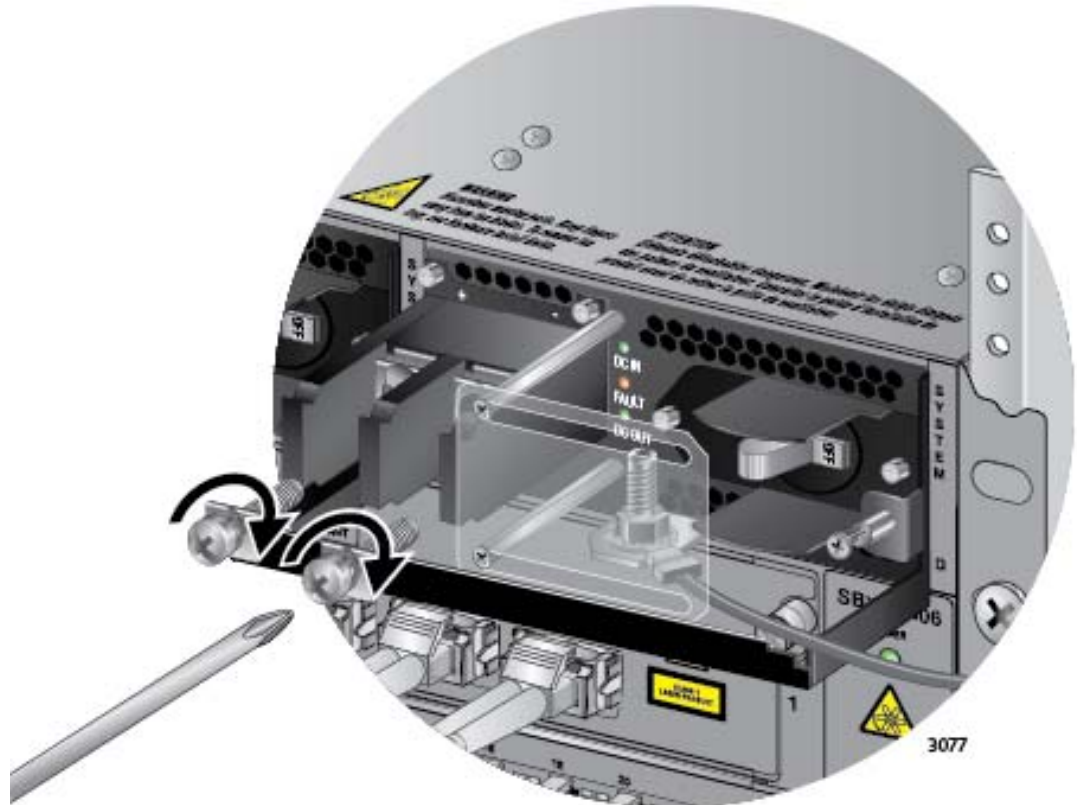

Figure 156. Reinstalling the Screws on the Positive and Negative Terminals
7. Reinstall the two screws on the negative (-) and positive (+) terminals. Refer to Figure 156 on page 241.